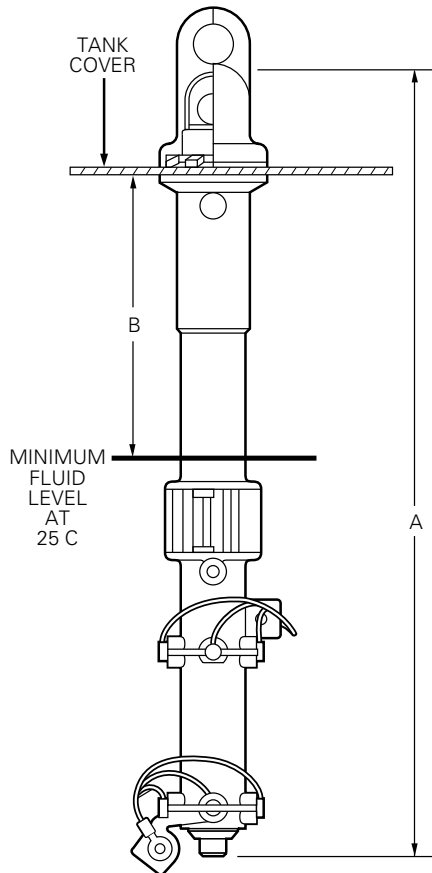

Figure 17. Check fluid level.
- Refer to manufacturer's instruction book for correct oil level. (See Figure 17.)